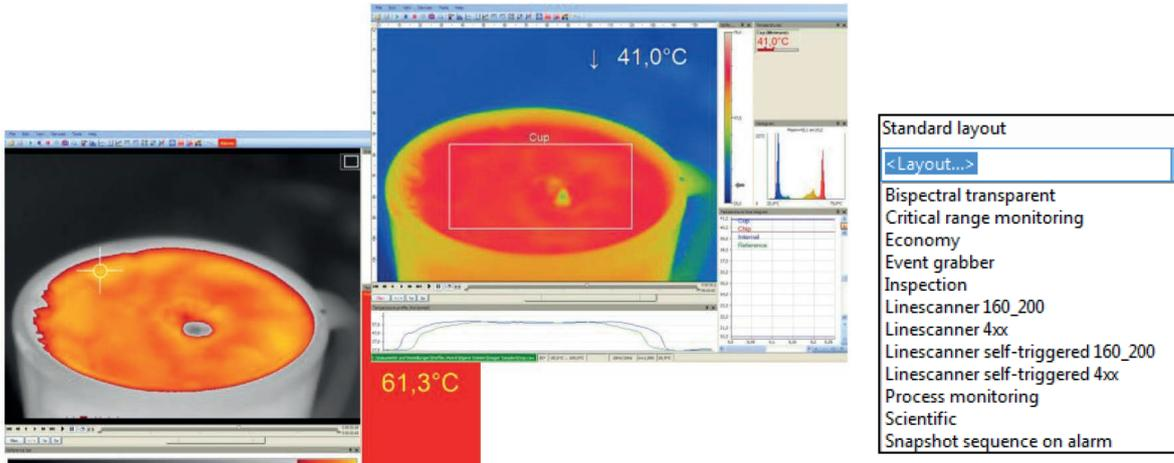

Fig. 26 View layout examples
**i** Before you click **Save layout** you must add new layout name into the field provided, see Fig. 26.